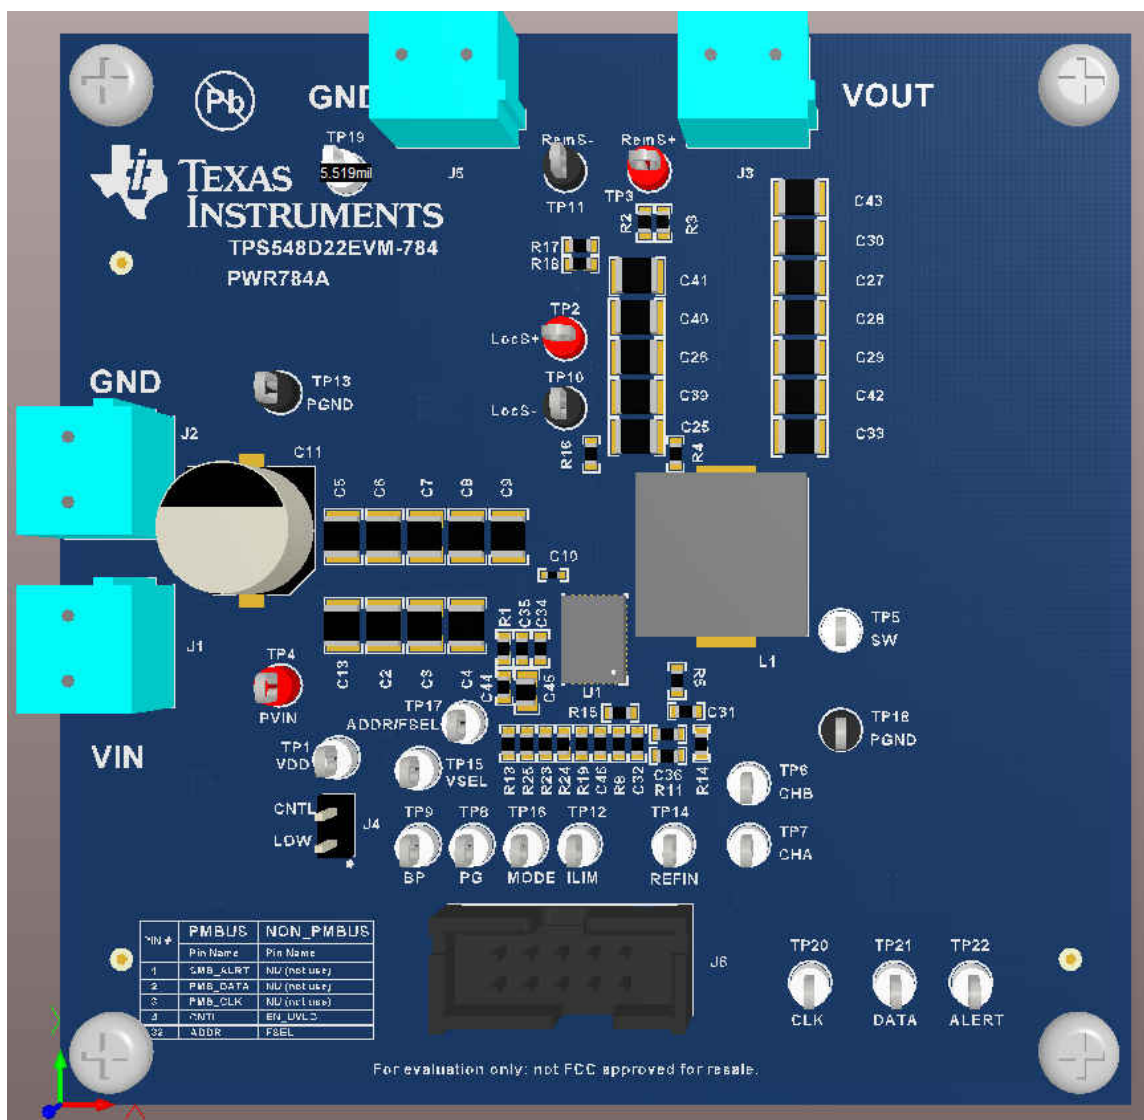

Figure 6-1. PWR-784EVM Overview
Multimeters: It is recommended to use two separate multimeters Figure 6-1. One meter is used to measure V_{IN} and one to measure V_{OUT} .
Output Load: A variable electronic load is recommended for testing Figure 6-1. It must be capable of 40 A at voltages as low as 0.6 V.
1. Connect VOUT to J3 and VOUT_GND to J5 Figure 6-1.
3. Connect VIN to J1 and VIN_GND to J2 Figure 6-1.